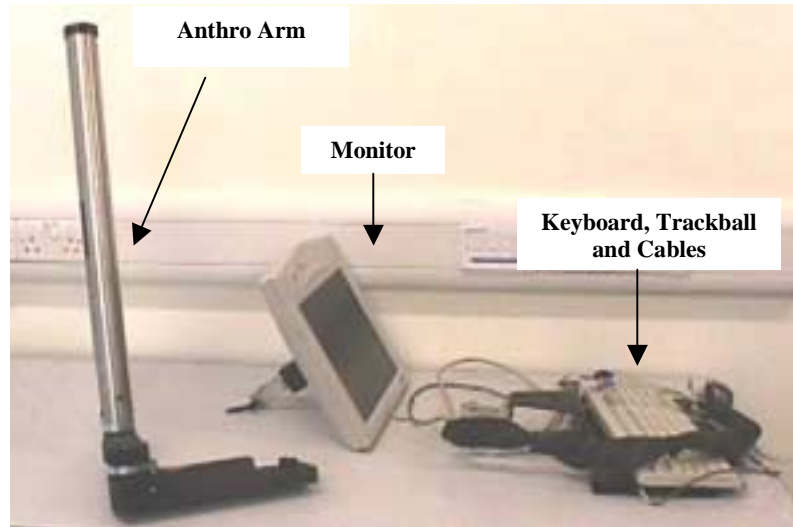

Figure 2.14 Equipment Packed in Machine
6. Set up the cabling for the **Monitor, Keyboard, and Trackball** (see figure 2.14).